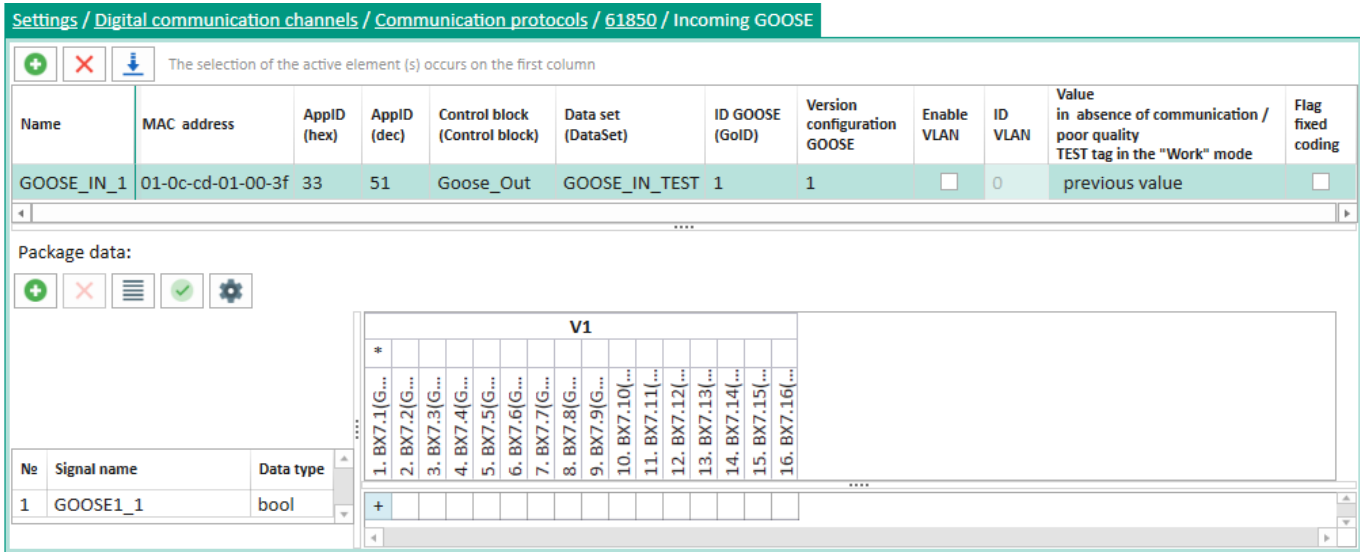

Figure 118 – Parameters of incoming GOOSE
3) Parameters of incoming GOOSE (figure 118).